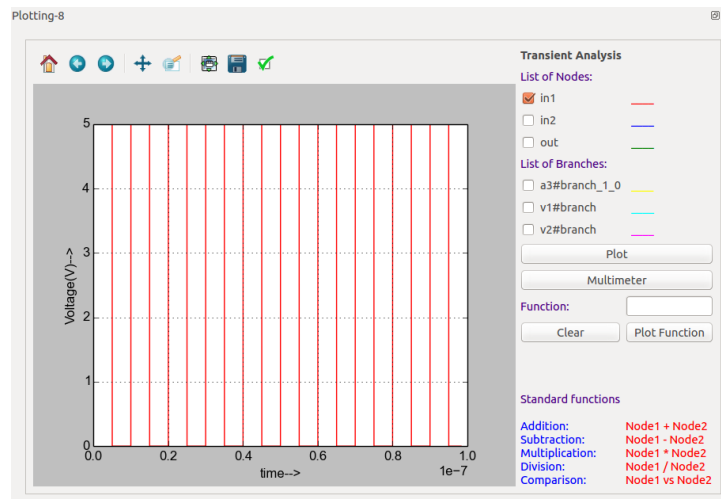
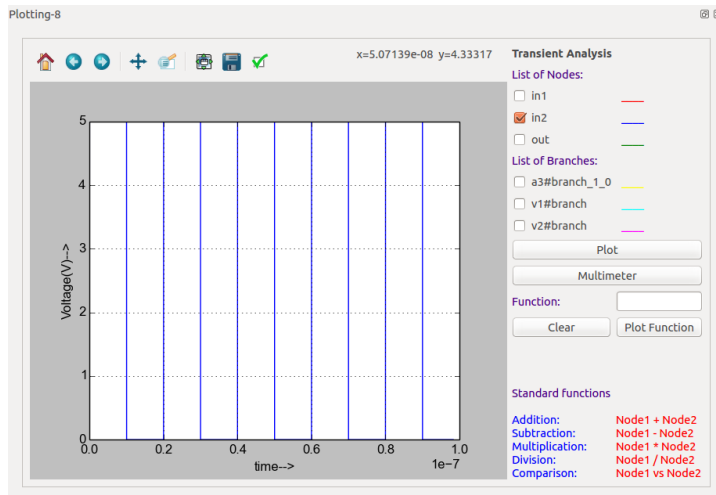
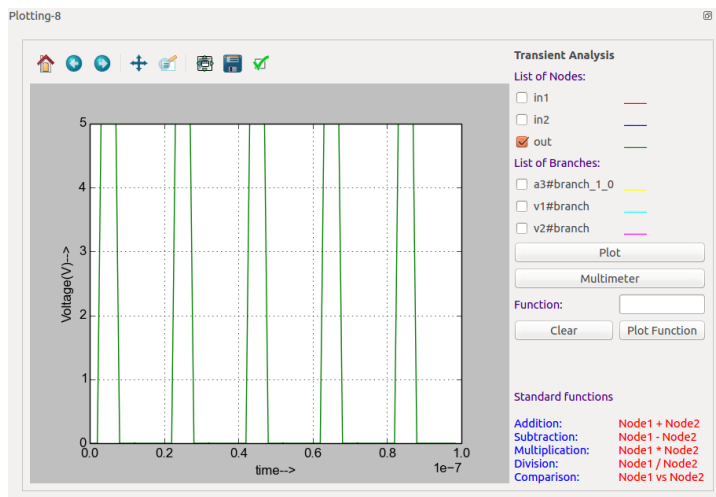

Figure 9.15: Plot of Source V1
Figure 9.16: Plot of source V2
Figure 9.17: Plot of output
8. Now select the required nodes and click on *Plot* button. You can see the plots of input source v1, input source v2 and output as shown in Fig. 9.15, Fig. 9.16, and Fig. 9.17 respectively.